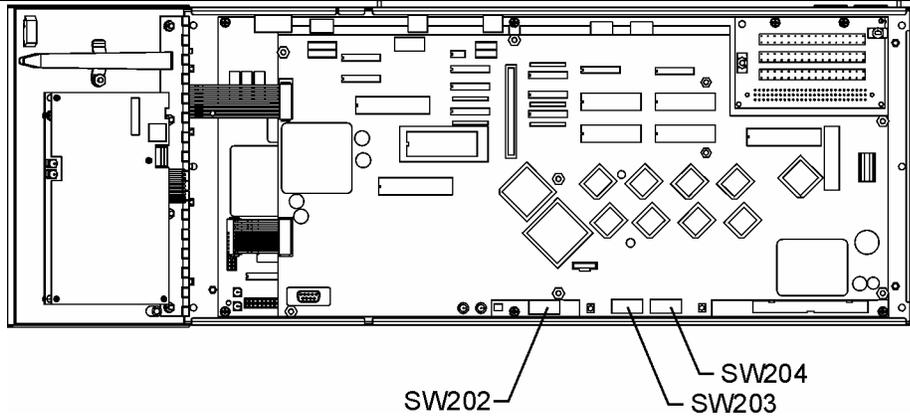

Figure 6-8: Millennium Controller Dip Switch Locations
2.	<p style="text-align: center;">Turn all Available Rectifiers On</p> <p>If rectifiers have been manually turned off, turn them back on. If they have been placed in standby because of the Energy Management feature of the controller, then disable this by changing Dip Switch 204-1 on the intelligent controller board to DISABLED. (see Figure 6-8) Verify that all rectifiers are on and sharing load.</p>